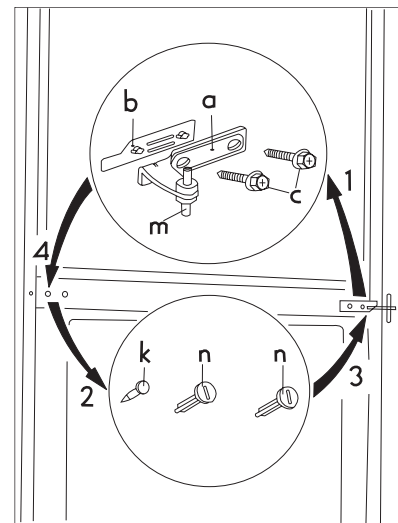

fig. 2.
3. Open the doors and dismount the double door hinge (a, b) by removing the screws (2 pieces) (c). (fig.2)
4. Take off the double door hinge (a, b, c) by gradually removing it from the cabinet, slightly tilting both doors. Do not forget to remove the plastic spacer (b) under the hinge. (fig.2)
14. Remove the covering pins (3 pieces) (n, k) of the double door holder on the left side and put them to the other side. (fig.2)
15. Fit the pin of the double door hinge (m) into the left hole of the freezer door. (fig.2)